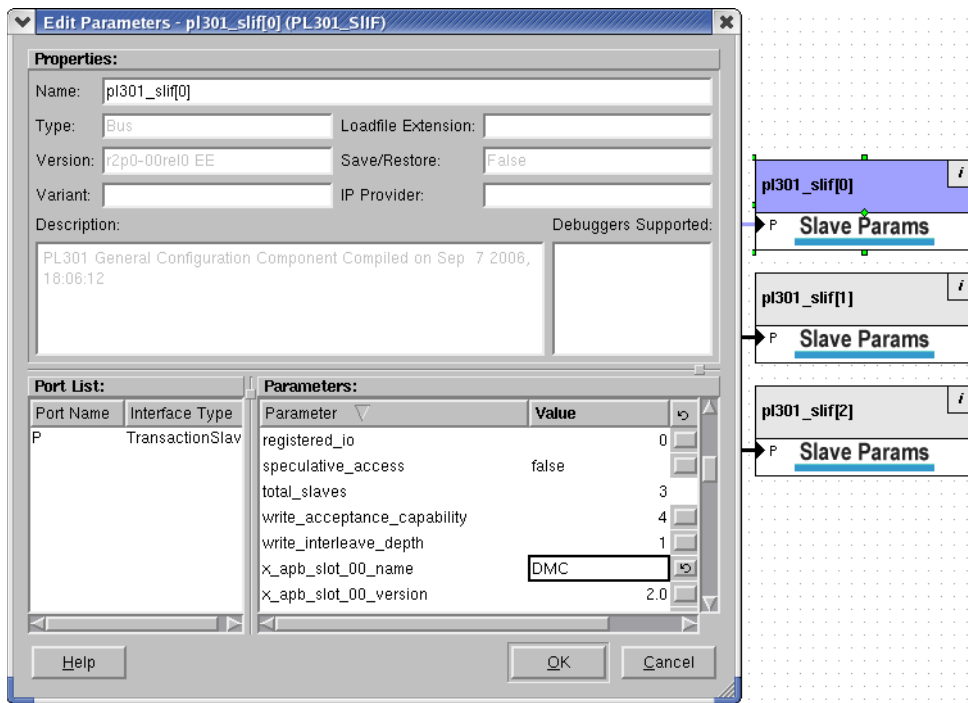

Figure 4-8 Configuring master interface 0
4. Enter DMC in the x_apb_slot_00_name Value field, as Figure 4-8 on page 4-11 shows.